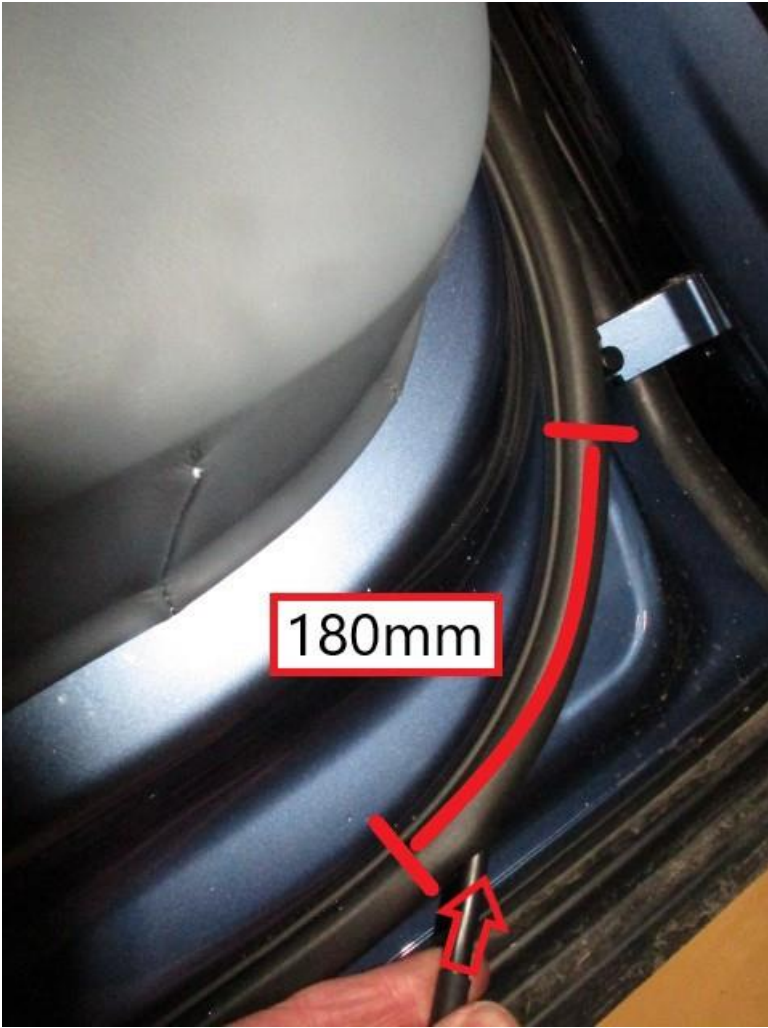

Figure 6
6) Referring to Figure 6 - Fully install the tubing 180mm into the door seal through the rear door seal lower drain hole